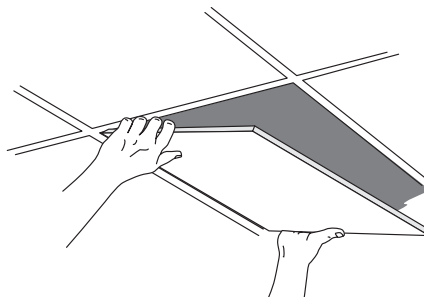

Figure 2
2. Remove the ceiling tile. See Figure 2.